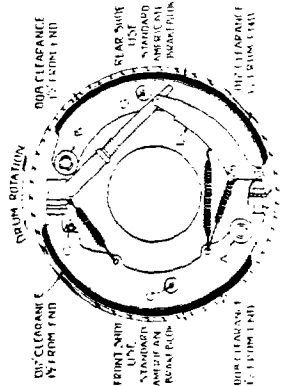

Figure 23
In the Wagner Hi-Tork brake (Figure 23), both shoes operate as Forward Acting Shoes when a stop is made with the vehicle going in the forward direction. During such a stop the front shoe anchors against the anchor pin (A) and the rear shoe is anchored by the anchor pin (B). When a
serving the brake shoe movement. It will be necessary to tap reverse anchor pin (C) to loosen it in the backing plate before it can be rotated. With an adjustable wrench, turn reverse anchor (C) to its off position. Remove adjustment hole cover (F). Insert a heavy screwdriver through the adjustment hole in the backing plate and engage star wheel (E). Move the axle and rotate the star wheel (E) (Fig. 23) to contracted position. This position of anchors and shoes permits the assembly of hub and drum over newly relined shoes.
2. Insert .012 feeler gauge through inspection hole in drum approximately $1\frac{1}{2}$ " from toe end of front shoe lining. Rotate from toe end of front shoe lining. Rotate anchor pin (C) in direction of forward rotation of the drum until feeler gauge is just free between the lining and the drum.
2. Remove adjusting hole cover (F) (Fig. 25), insert a screwdriver and rotate the star wheel (E) (Fig. 23), moving the handle of the screwdriver upward in direction of the axle, until a drag is felt. Release rear shoe (Fig. 23) from drag by rotating star wheel (E) in opposite direction from above, moving screwdriver handle downward away from axle, until the drag is relieved and a .012 feeler gauge can be inserted through the drum inspection hole $1\frac{1}{2}$ " from the toe end of the lining adjacent to the star wheel. Rotate drum to check for high spots or drum eccentricity. Replace adjusting hole cover.